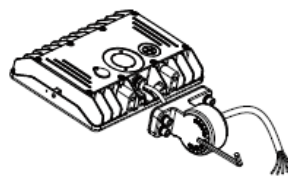

Figure 5
- 4: Fish wire through first half of arm. (Figure 5)